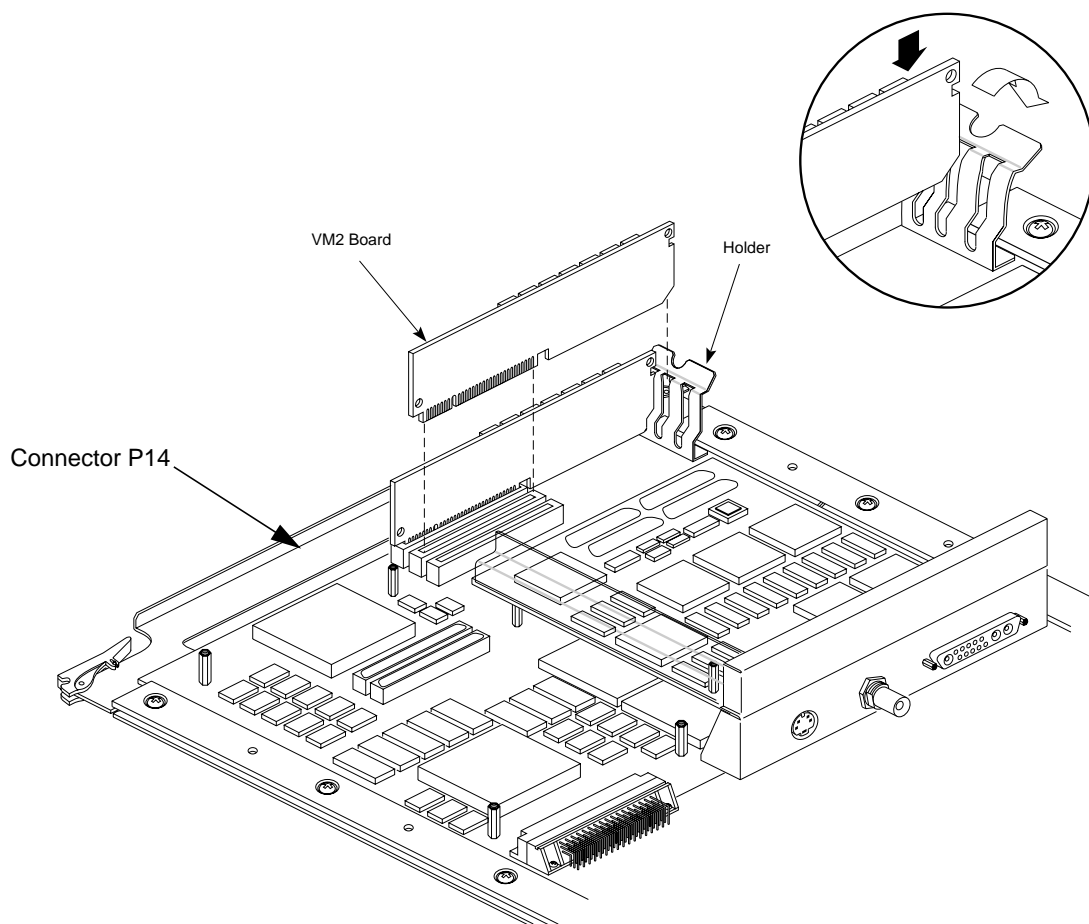

Figure 3-7 Installing Video Memory
The VM2 boards are pressed into their connectors and locked in place with a metal holder, as shown in Figure 3-7. Follow the steps below to correctly install these boards.
2. Insert the connector pins of the VM2 boards into the slots located in the corner of the graphics board, as shown in Figure 3-7.